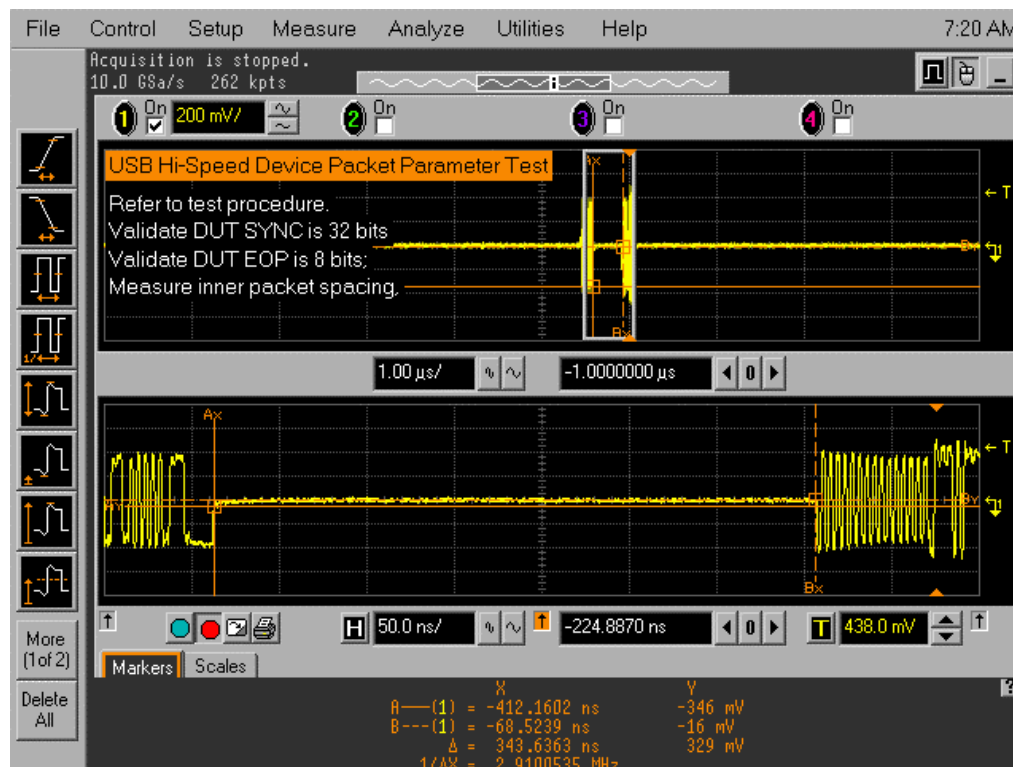

Figure 27. Hub Packet Following Host Packet
15. The oscilloscope capture should appear as in Figure 27.
16. Click “right” mouse button in the main oscilloscope screen with no waveform. From the menu, select “Undo Zoom” until screen shot from Figure 27 is restored.